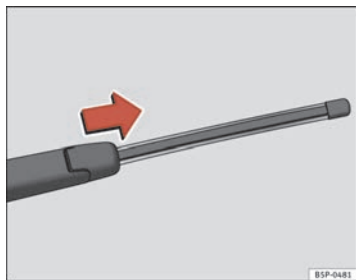

Fig. 169 Removing rear window wiper blade
- Lift the wiper arm away from the glass ⇒ page 244, fig. 169
- Slide the blade adapter in the direction of the arrow and remove the blade ⇒ page 244, fig. 169.